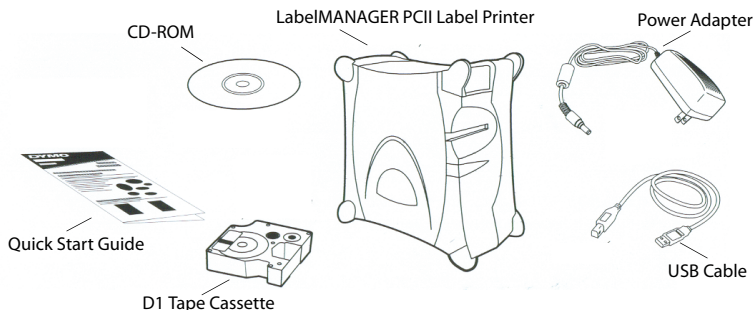

Figure 1
- 2 Make sure you have all the items shown in Figure 1.